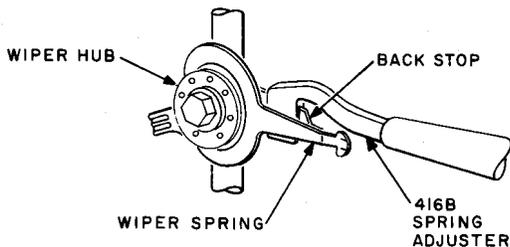

Fig. 16—Method of Adjusting Commutator Wiper Back Stop
(4) Insufficient overlap between the wiper spring and the commutator contact is usually due to excessive kinks or bows in the wiper spring. These may be corrected by straightening the spring with KS-7782 pliers. Where there are no excessive bows or kinks in the wiper spring, the overlap may be increased by loosening the two screws by which the commutator is attached to the banks with the 4-inch E screwdriver and shifting commutator closer to the commutator wiper. Where the commutator mounting bracket is mounted on the baseplate, loosen the bracket mounting screws with the 563A or 564A offset screwdrivers and shift the bracket as required.
(5) To adjust the clearance between the wiper spring and the back stop, adjust the back stop near the wiper hub toward or away from the spring as required with the 416B spring adjuster. (See Fig. 16.)